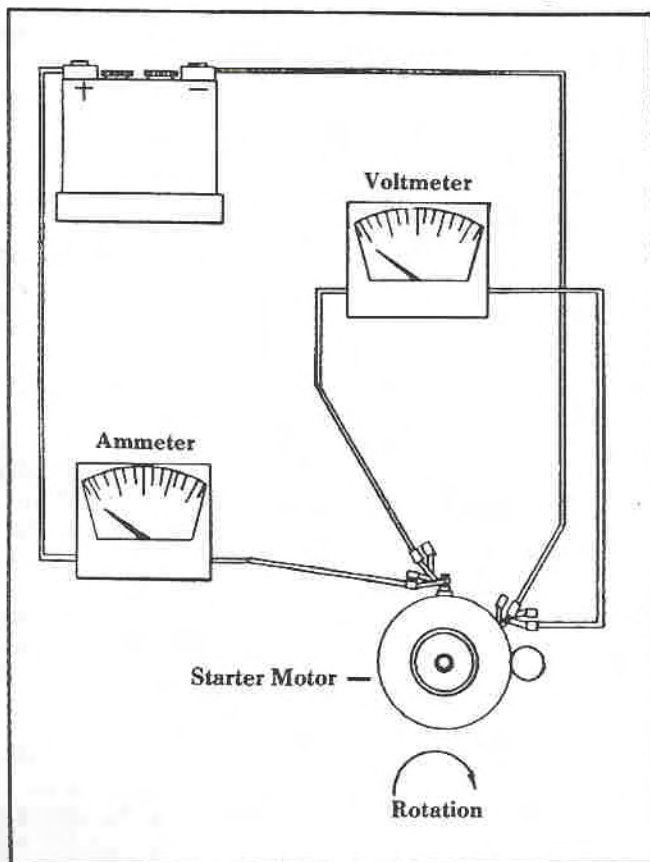

Fig. 6
1. Connect a voltmeter between the starter terminal and motor frame. Using a torque wrench to stall motor armature (Figure 6), connect starter motor through an ammeter to a 12-volt battery.